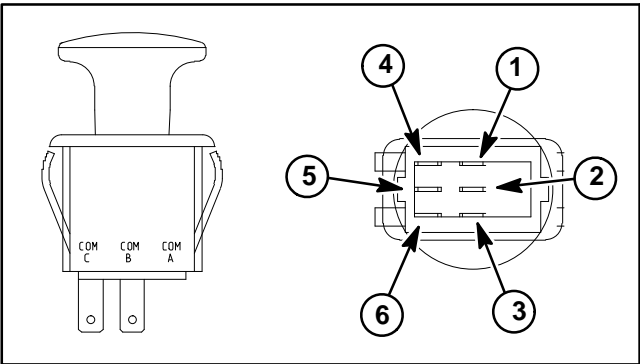

Figure 37
- 5. The enable/disable switch terminals are marked (Fig. 37). The circuit logic of the enable/disable switch is shown in the chart (Fig. 38). With the use of a multimeter (ohms setting), the switch functions can be tested to determine whether continuity exists between the various terminals for each switch position. Verify continuity between switch terminals. Replace enable/disable switch if testing identifies that switch is faulty.